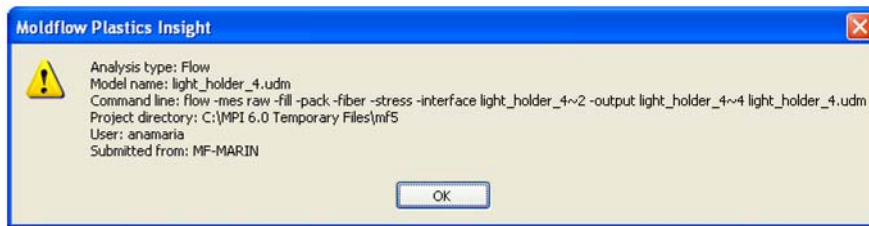

Figure 564: Analysis properties dialog
3. Select **Properties** from the context menu. The program will list the following information, as shown in Figure 564: